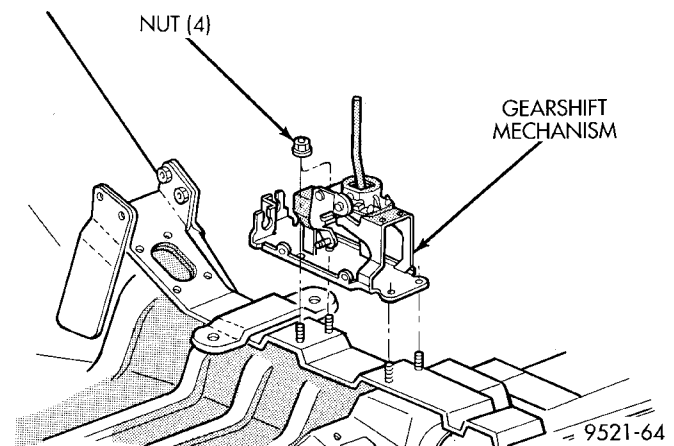

Fig. 17 Gearshift Mechanism
- (1) Remove shifter knob.
- (2) Remove console assembly. Refer to Group 23, Body for procedure.
- (3) Remove shifter boot.
- (4) Remove gearshift cables.
- (5) Remove the parking brake mechanism. Refer to Group 5, Brakes for procedure.
- (6) Remove the airbag control module. Refer to Group 8M, Passive Restraint System for procedure.
- (7) Remove the two remaining nuts at the base of the gearshift mechanism (Fig. 17). Remove shifter.